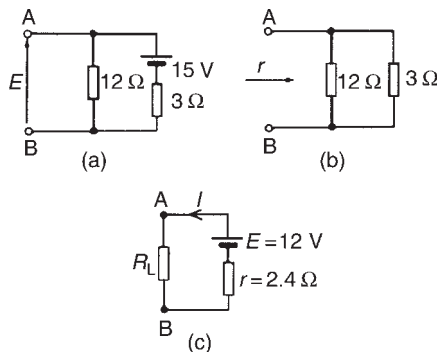

Figure 13.86
- (i) Resistance R_L is removed from the circuit as shown in Fig. 13.86(a)
- (iii) Removing the source of e.m.f. gives the circuit of Fig. 13.86(b), from which, resistance,
- (iv) The equivalent Thévenin's circuit supplying terminals AB is shown in Fig. 13.86(c), from which,